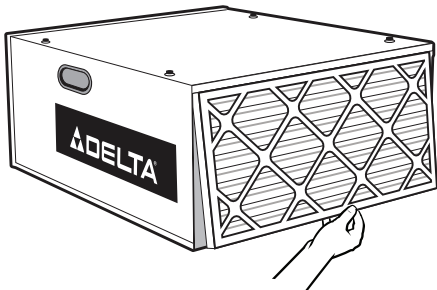

FIG. 2A
2. Remove outer filter by lifting up on the bottom and pulling out (Fig. 2A).